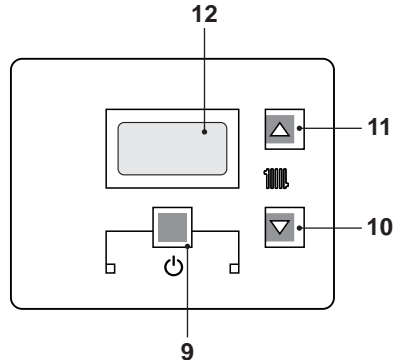

Fig. 2.5
- Press the key 9 for 2 seconds until  symbol appears on the display Fig. 2.5.
The output temperature of c.h. water can be adjusted by acting on keys 10(reduce) and 11(increase) (Fig. 2.5) from a minimum of about 25°C to a maximum of about 85°C.
However, if the ambient temperature is not comfortable, the flow temperature of the heating plant can be increased or reduced by $\pm 15^{\circ}\text{C}$ by acting on keys 10(reduce) and 11(increase) (Fig. 2.5).